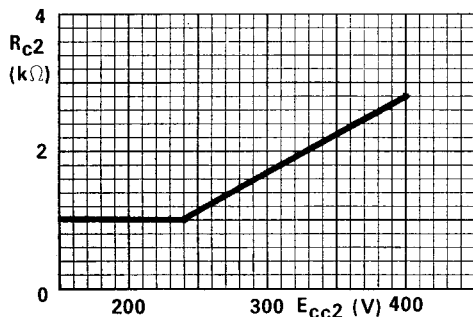

Figure 1
- ▲ To prevent an excessive value of Pc2 the minimum Rc2 values are given in Figure 1.
Note: R_{c2} minimum for 400 V screen grid supply is 2.9 $k\Omega$ (see Figure 1).
Note: R_{c2} minimum for 350 V screen grid supply is 2.2 k Ω (see Figure 1)
Note: R_{c2} minimum for 280 V screen grid supply is 1.4k Ω (see Figure 1)